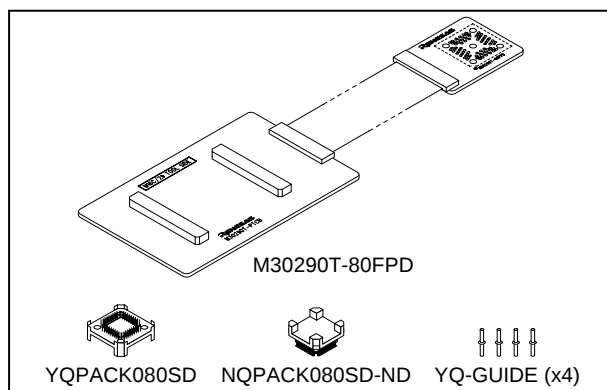

Figure 1 Package components of the M30290T-80FPD
2. Package Components (See Figure 1)